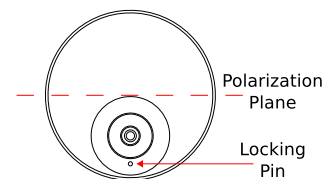

Figure 1.2: Top view of radar antenna and its polarization plane.
- Figure 1.2, shows the polarization plane of the signal emitted from the radar antenna. If the WaveGuide radar is mounted close to a large vertical wall, then the radar should be mounted such that the polarization plane is parallel to the wall. That is to minimize the effect of the wall on the propagation of the signal. Nevertheless, the horizontal distance between the radar and the wall should comply with the previous criteria.